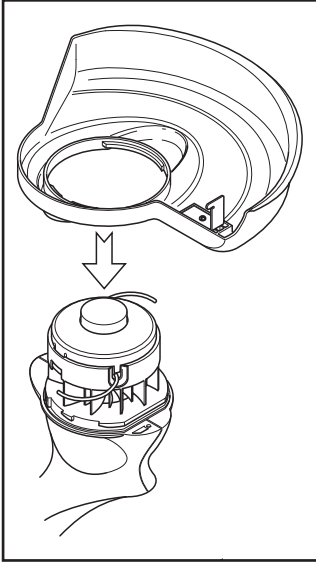
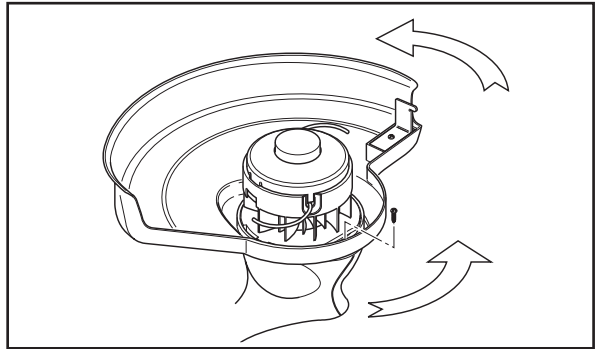

Fig 1
Fig 2
See Fig 1 and Fig 2
2. Place the guard over the spool holder on your trimmer lining up the lugs on the guard with the spaces on the trimmer. It should be positioned at about 90 degrees to the correct position. (Fig 1).
3. Once correctly engaged, turn the grass deflector guard to lock it in place. The guard should be facing the rear of the trimmer. (Fig 2).